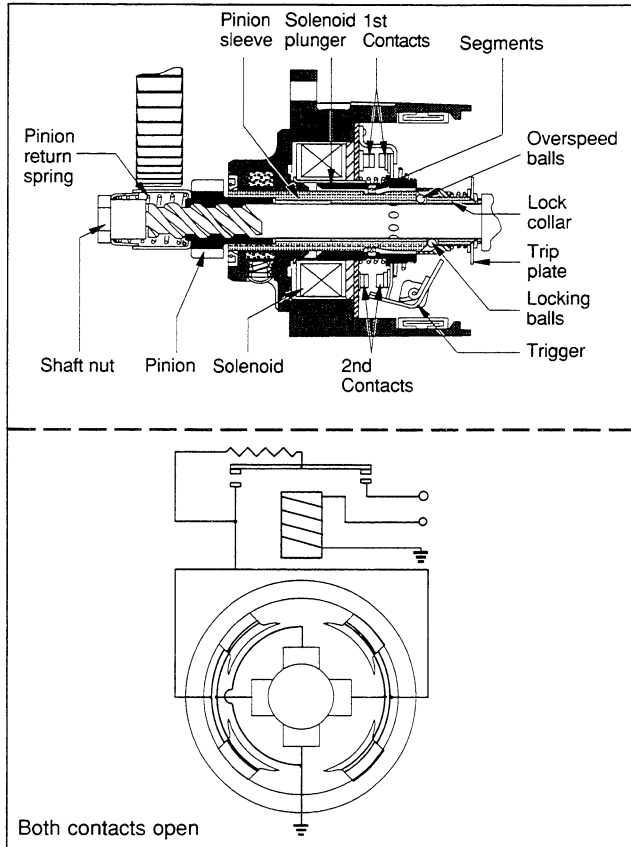

Fig. 2 Rest Position
1.2.1 Rest position (see fig. 2)